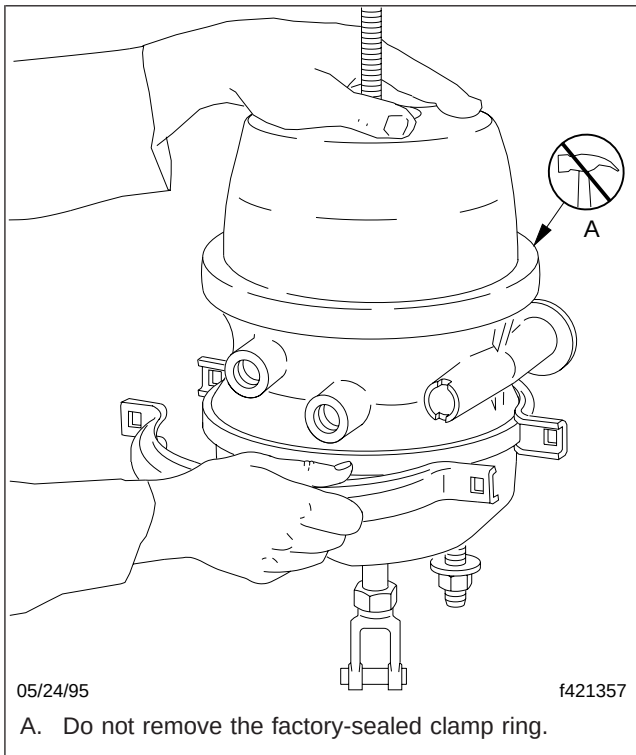

Fig. 3, Removing the Service Clamp Ring
- 4.2 While holding the parking brake section securely in place, remove the service clamp ring. Then remove the parking brake section from the service brake non-pressure chamber. See Fig. 3.